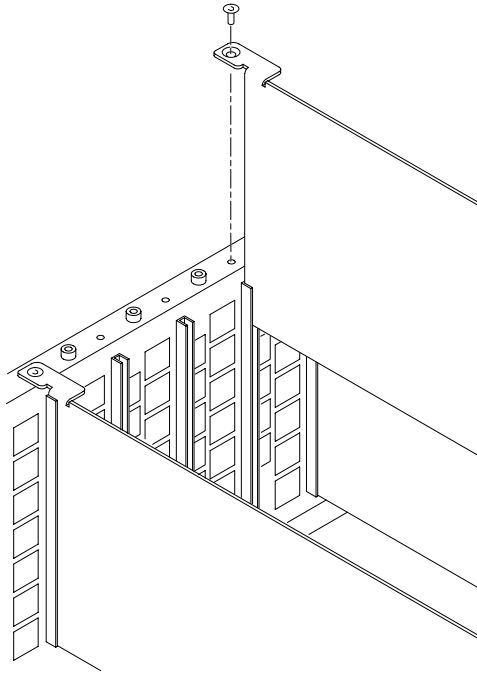

Figure D-6: Top screw
9. Refer to Figure D-6 and insert and tighten the top screw, which comes with your module, and tighten the rear panel screw.
5. Refer to Figure D-6 on page D-6 and remove the top screw.